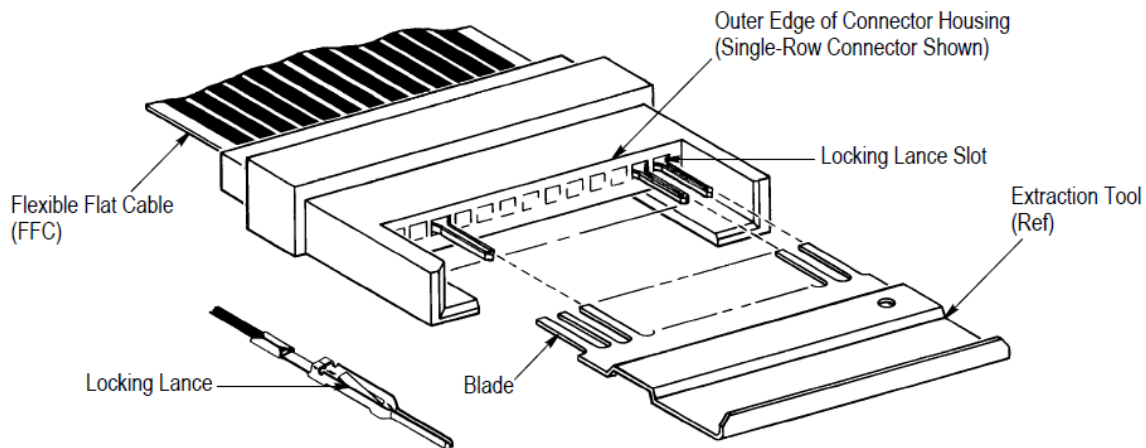

Figure 1
Each tool features a specific number of blades that release the contact locking lances of the connector (see Figure 1). **The number of blades must match the number of cavities in one row of the connector.**
1. Align the tool blades with the locking lance slots located between the contacts and outer edge of the housing as shown in Figure 1.